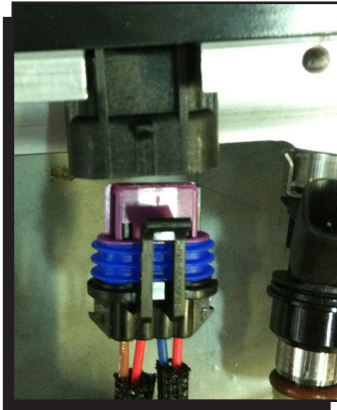

Figure 7 Injector Rail Connection.
6. Plug the fuel injector pigtails into the fuel rail connections (Figure 7).